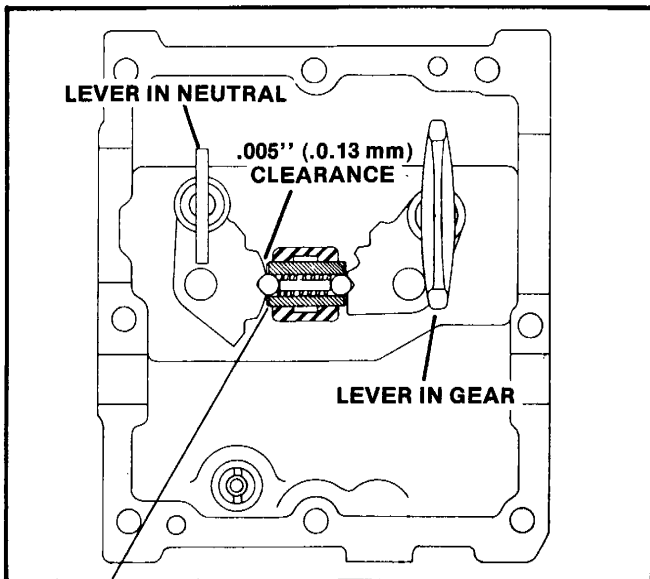

FIGURE 10
4. Check interlock sleeve for correct clearance in all four gear positions. Figure 10.